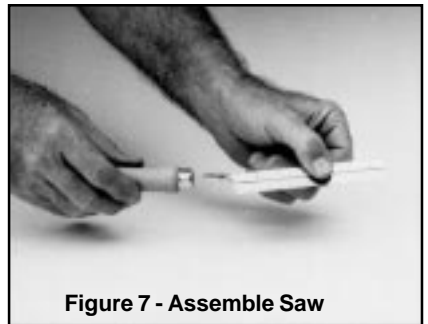

Figure 7 - Assemble Saw
- Assemble the saw blade and wooden saw handle provided. To assemble the saw, grip the saw frame in a vise, just below the neck. Drive the handle fully onto the neck. (See Figure 7.) This will reduce the tendency of the handle to turn on the saw frame when sawing.